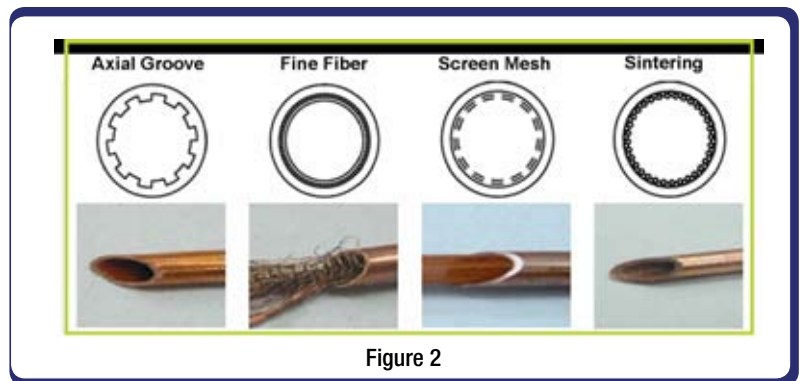

Figure 2
3. **Wick** – The wick structure comes in several different shapes and materials. Figure 2 shows the profiles of common wick types: axial groove, fine fiber, screen mesh, and sintering. Each wick has its own characteristics. For example, the axial groove has good conductivity, poor flow against gravity, and low thermal resistance. Conversely, a sintering wick has excellent flow in the opposite direction of gravity but has high thermal resistance.